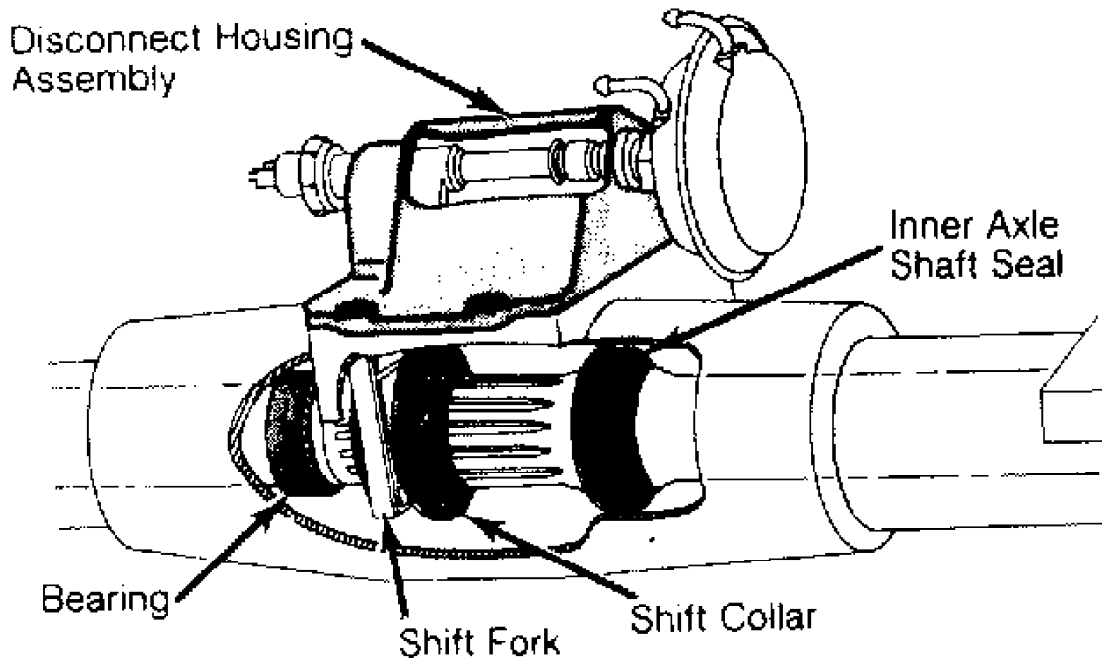

Fig. 1: View Of Axle Disconnect Assembly
2) Remove axle assembly inspection cover and drain fluid. Remove vacuum and electrical connections at disconnect housing assembly. Remove bolts and pull disconnect housing from axle tube. See Fig. 1.